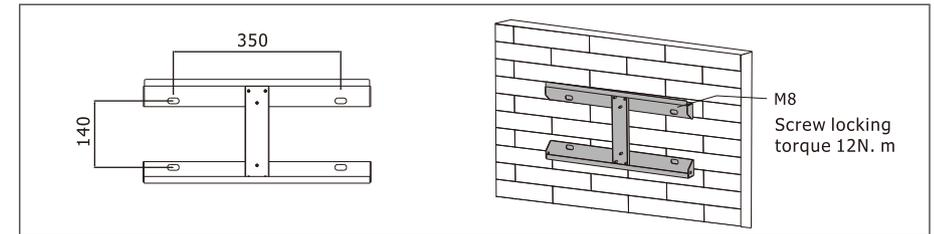

Figure 3.4-1 Install Inverter hanging plate
Step 1. Please use the mounting bracket as a template to drill 4 holes in the right positions (10mm in diameter, and 80mm in depth). Use M8 expansion bolts in accessory box and fix the mounting bracket onto the wall tightly. The installation of inverter support is shown in Figure 3.4-1.